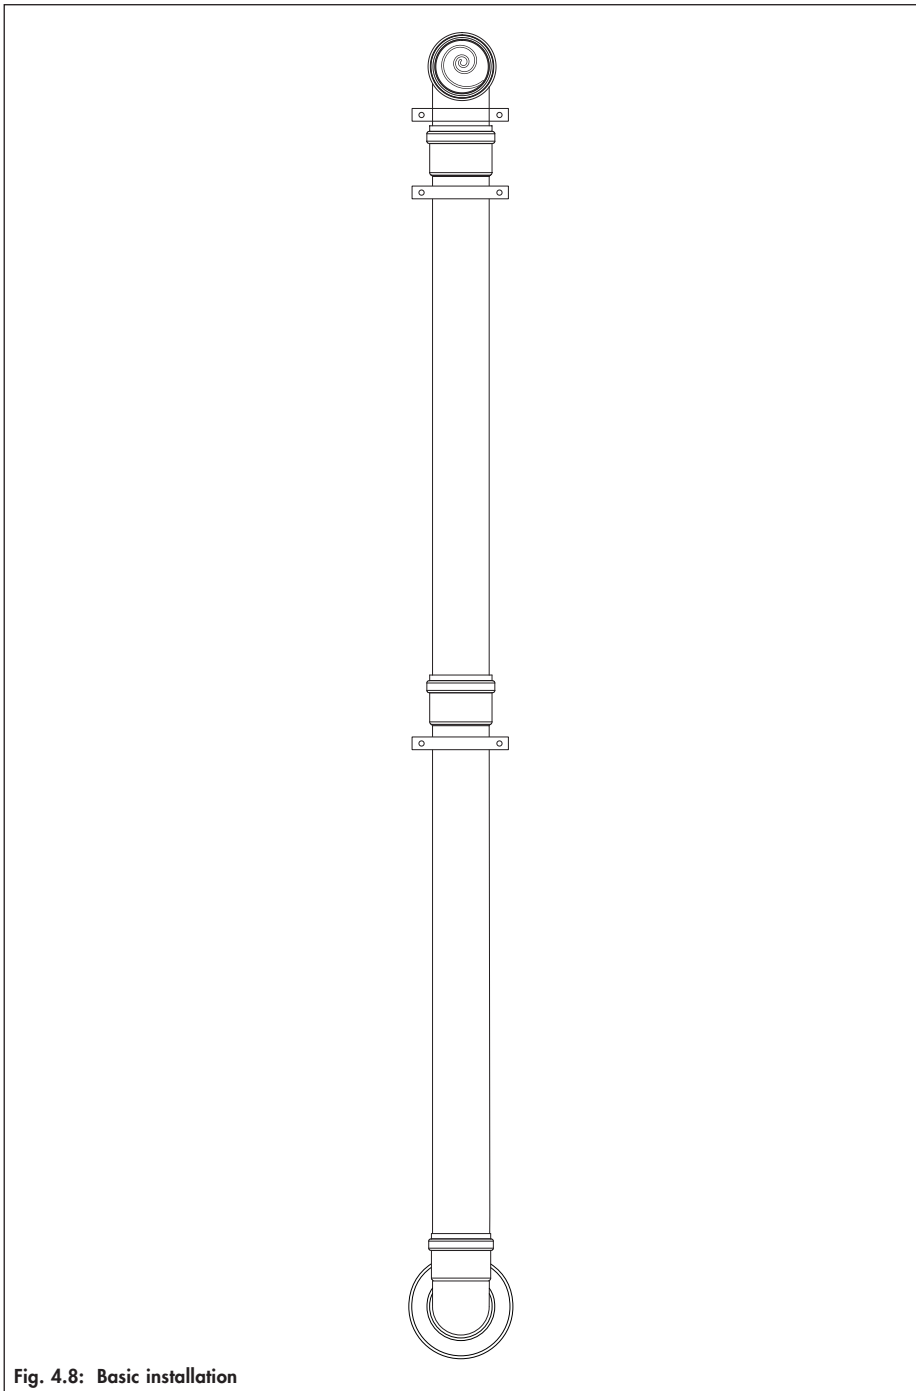

Fig. 4.8: Basic installation
- Fit the pipes and bends, working from the variable terminal to the selected location for the flue exit using support clips supplied fig 4.8, 4.9, 4.10 or 4.11.